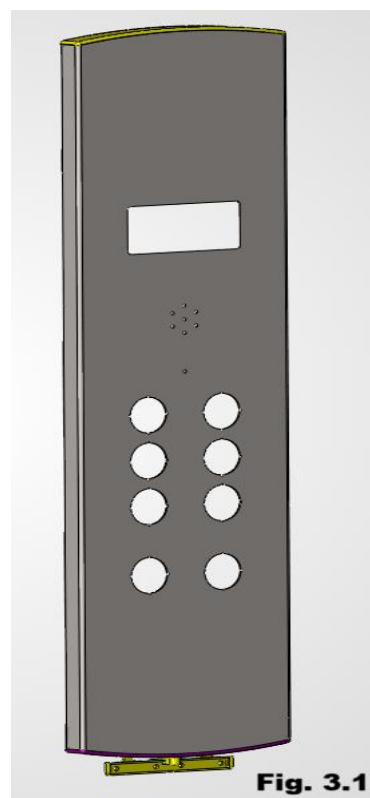

Fig. 3.1 — COP temporarily supported in position
3. Check that the connection is secure: the COP must remain supported without any external support (Fig. 3.1).